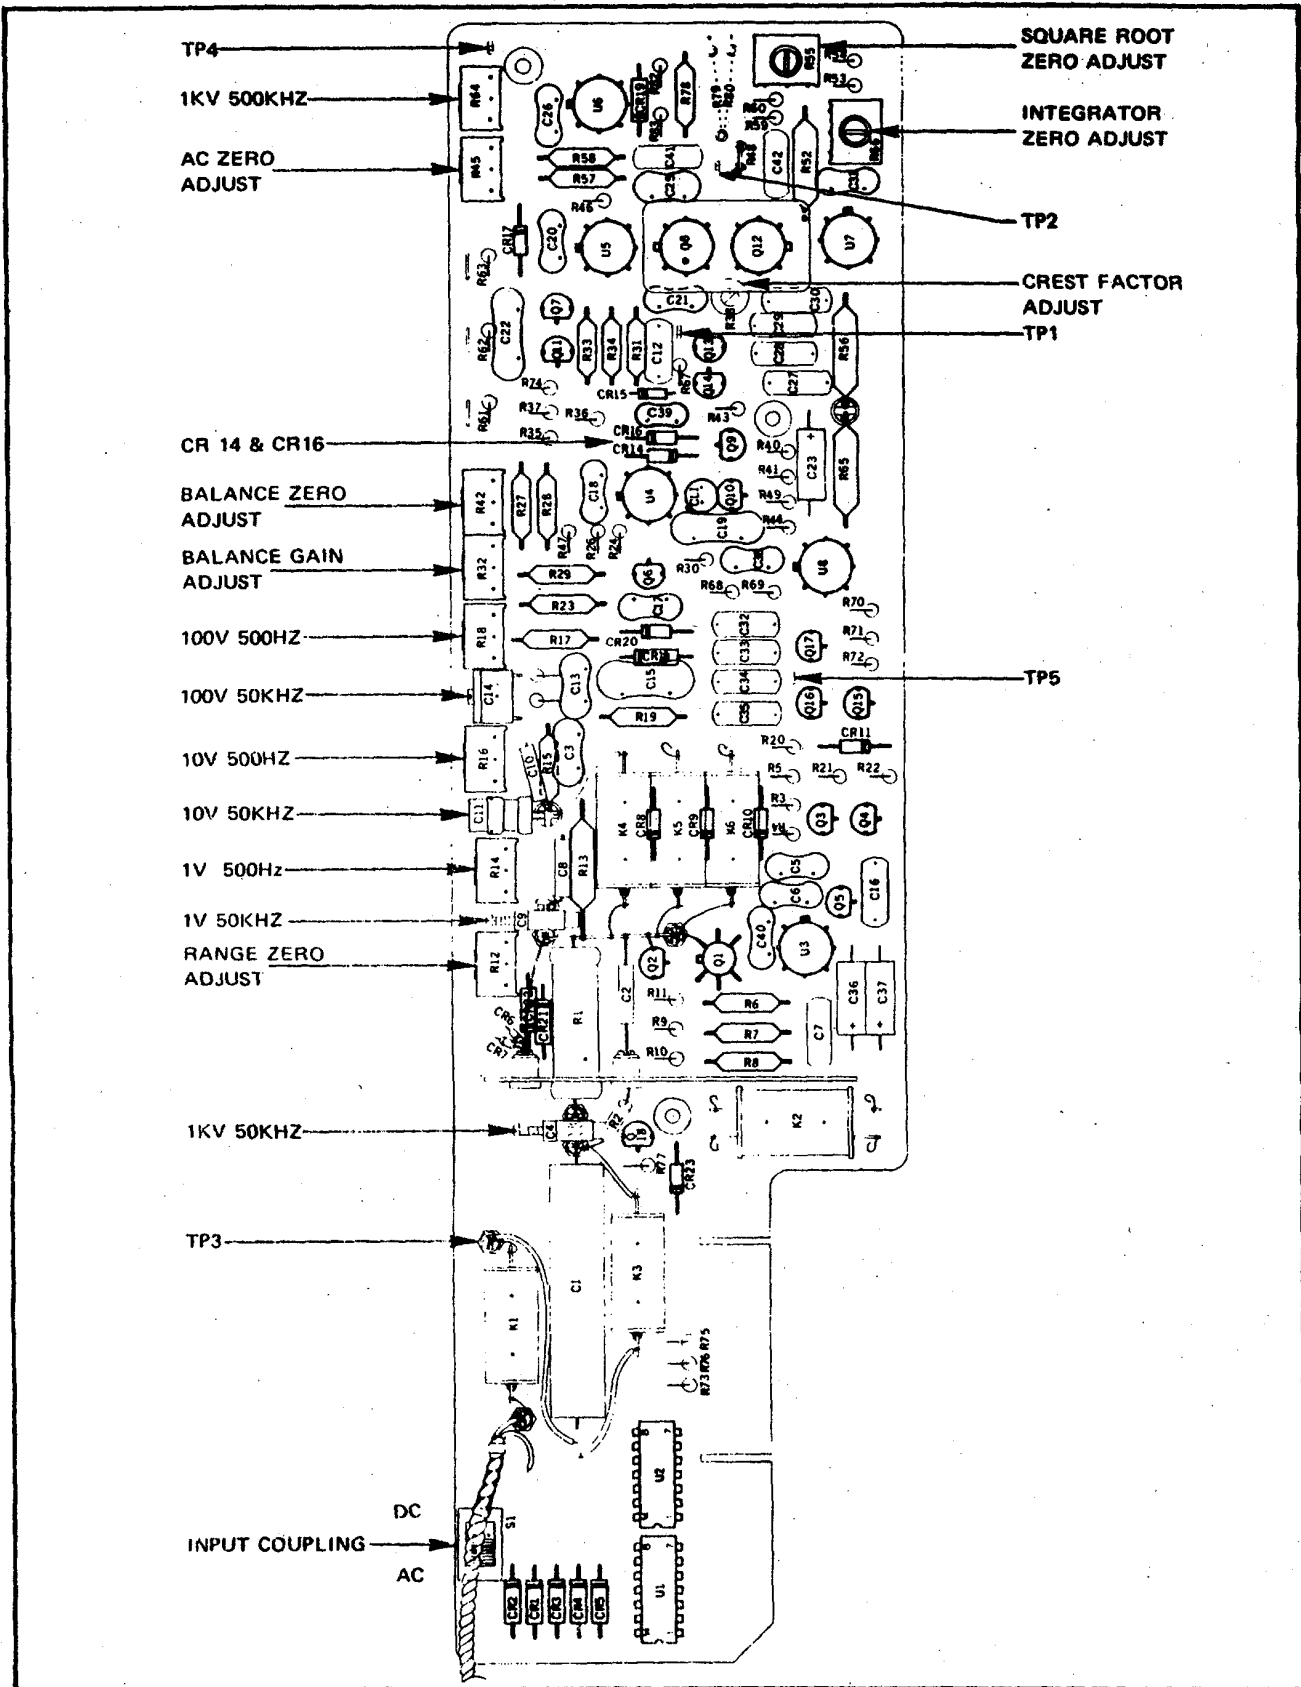

Figure 4-12. RMS CONVERTER ADJUSTMENTS AND TEST POINTS
- h. Connect equipment as diagramed in Figure. 4-12. Set the RMS Converter switch SSI to ac coupling and depress the autorange switch on the front panel.